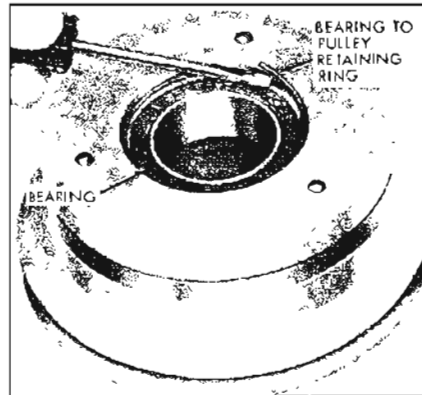

Figure 11-64—Removing Bearing Retainer Wire
4. Withdraw bearing to pulley retaining ring with a small screwdriver (see Figure 11-64).
9. Lock bearing in position with bearing to pulley retainer ring (see Figure 11-64) using No. 26 Truarc Pliers (J-6435).